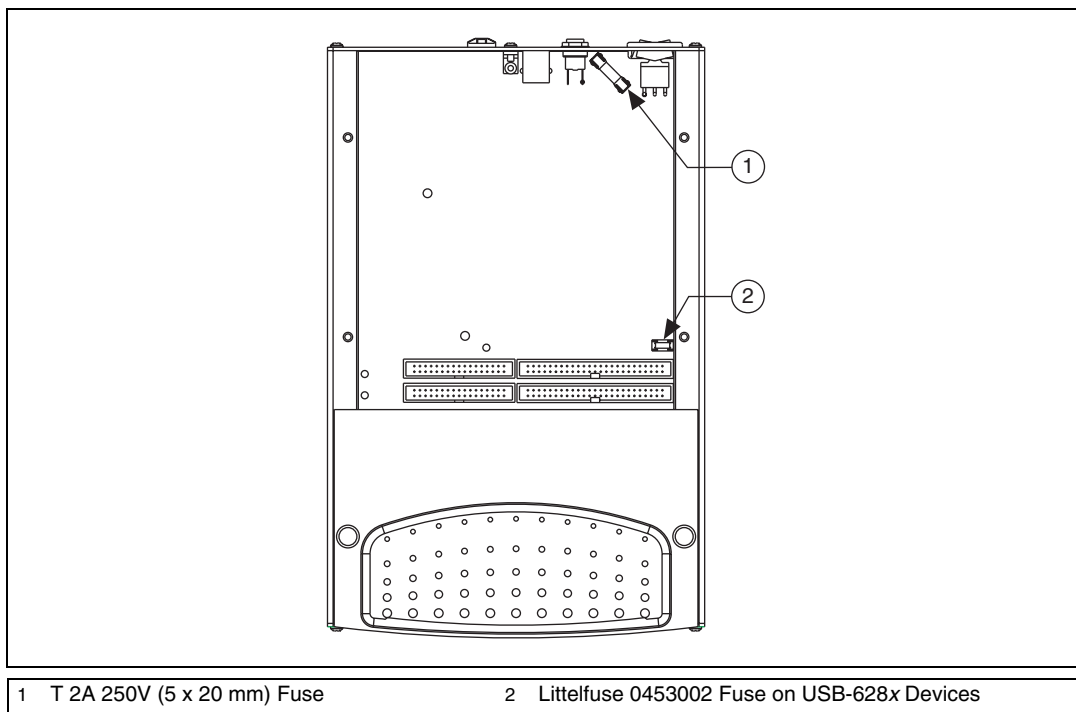

Figure 3-5. USB-62xx Screw Terminal Fuse Locations
3. Replace the broken fuse while referring to Figure 3-5 for the fuse locations.